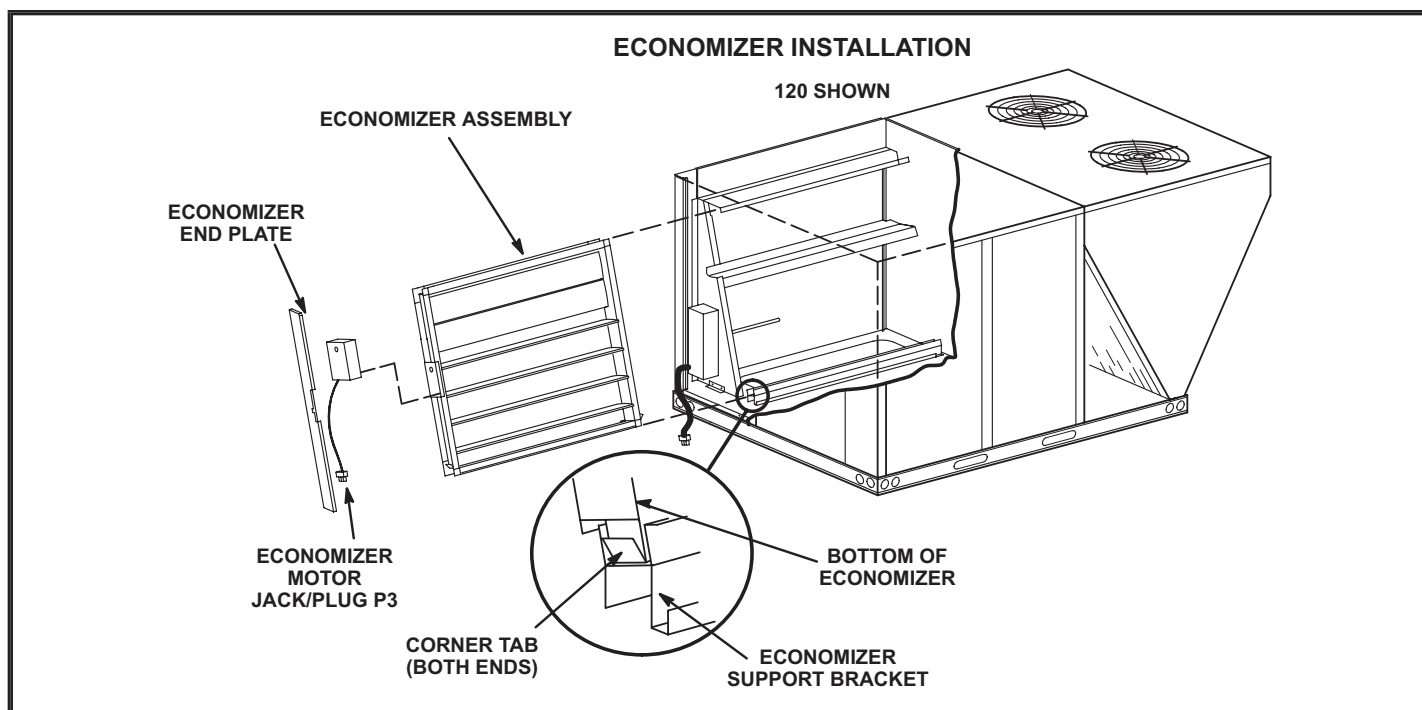

FIGURE 1
- 5 - Align bottom of replacement economizer with economizer support bracket and slide economizer into unit. See FIGURE 1.